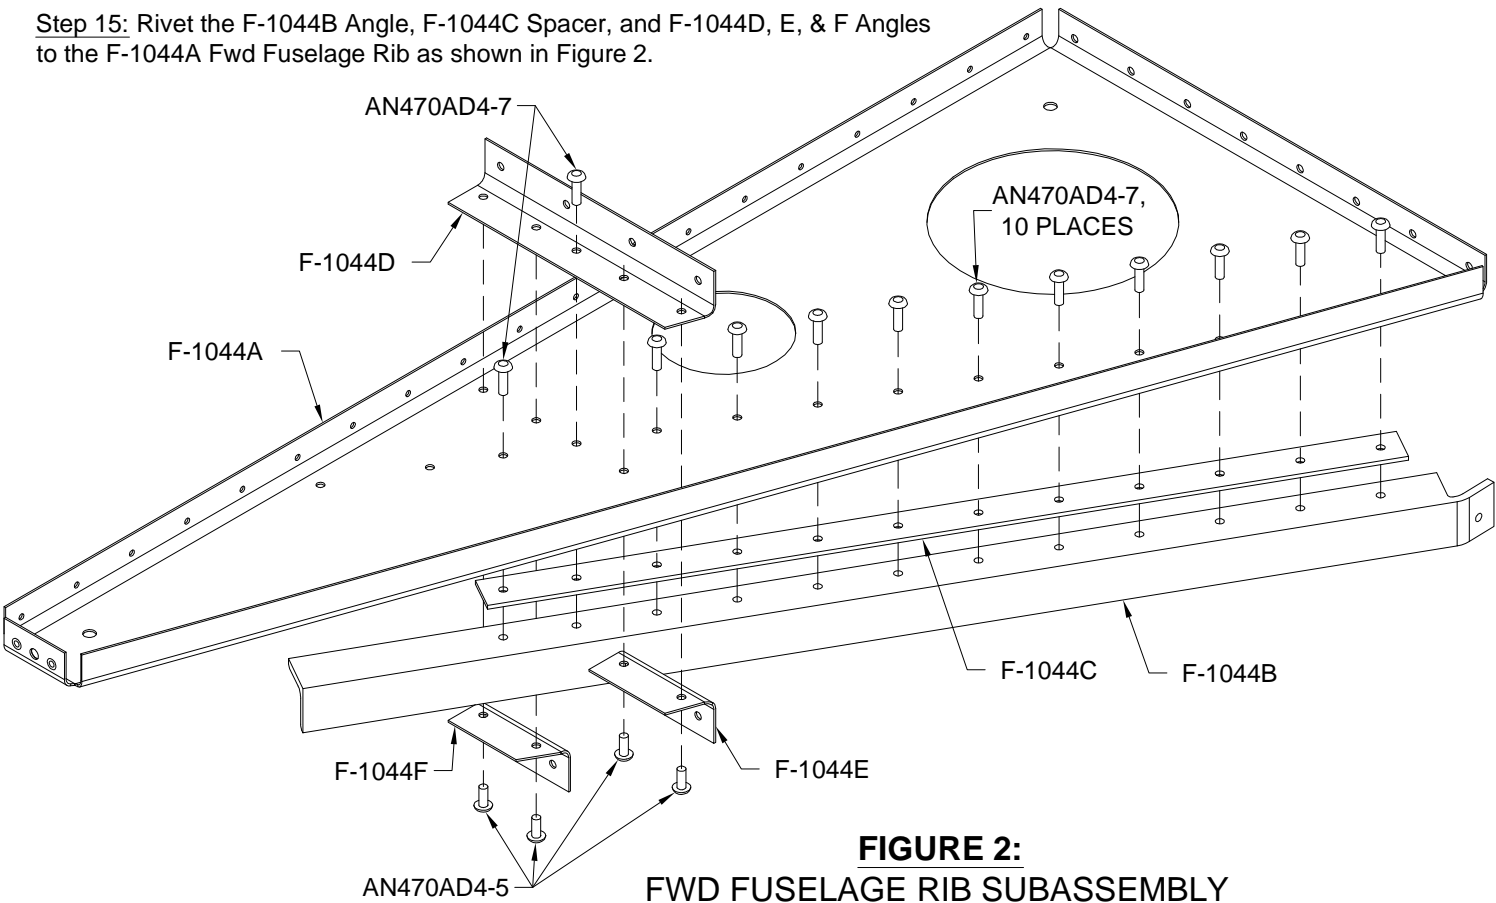

FIGURE 2:
Step 13: Dimple the nutplates that will be attached to the F-1003D & E Inst Panel Attach Flanges and F-1083 Control Cable Bracket. See Figure 1 and Page 31-5, Figure 2.
Step 14: Rivet nutplates to the F-1003D & E Inst Panel Attach Flanges and F-1083 Control Cable Bracket as shown in Figure 1 and Page 31-5, Figure 2.
Step 15: Rivet the F-1044B Angle, F-1044C Spacer, and F-1044D, E, & F Angles to the F-1044A Fwd Fuselage Rib as shown in Figure 2.